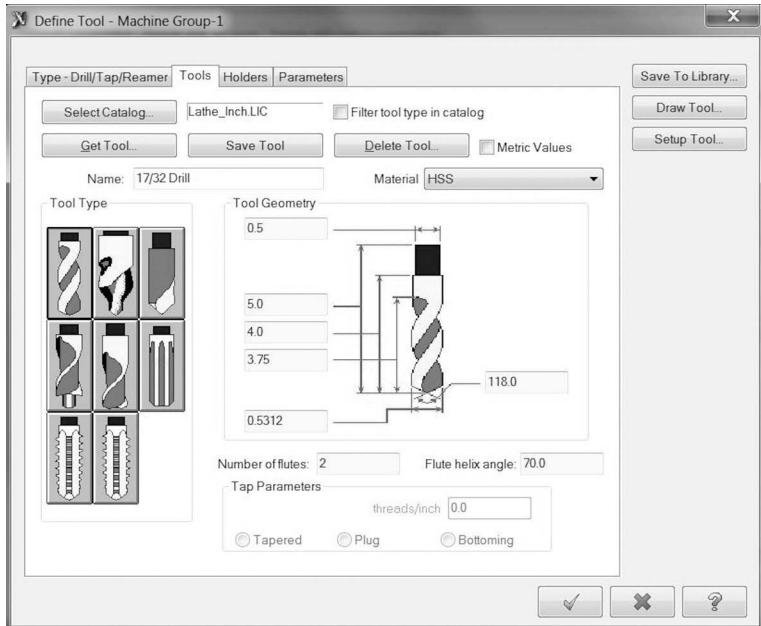

Figure 5-76 Define Tool Dialog
- Double-click on the listed tool to open the Define Tool—“Machine Group-1” dialog (Figure 5-76) to set the tool data for the 17/32 diameter drill required.